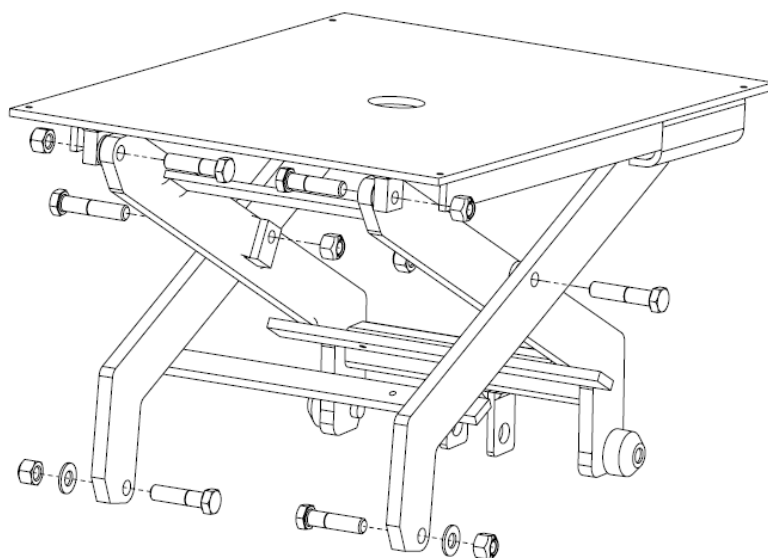

Figure 1.9
- c.) Steps #4 through #8 are repeated for each of the six leg bolts (See Figure 1.9).